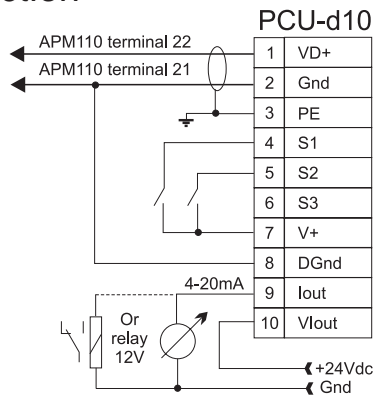

Fig. 2A
- 2) On/Off signal related to Min limit; No alarm = 22mA and Alarm = 1mA. See installation in figure 2A on page 4.